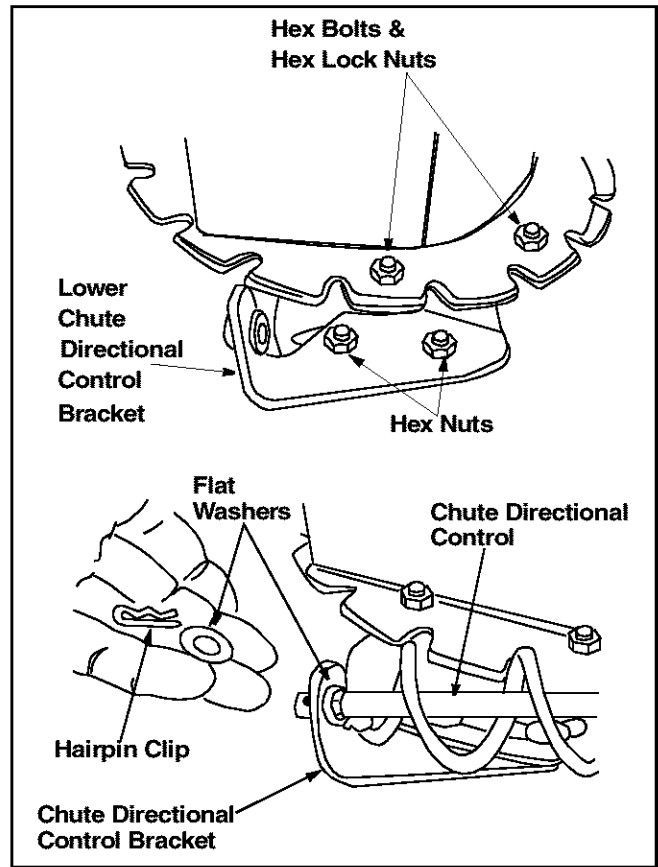

Figure 8
- Loosen the two hex nuts which secure the lower chute directional control support bracket to the snow thrower housing. See Figure 8.
- Place one flat washer over the end of the chute directional control, then insert the end of the chute directional control into the hole in the plastic bushing on the chute bracket. Place second flat washer on chute directional control, and secure with hairpin clip. See Figure 8.